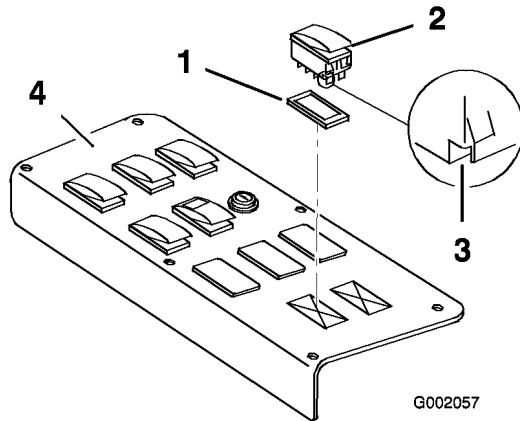
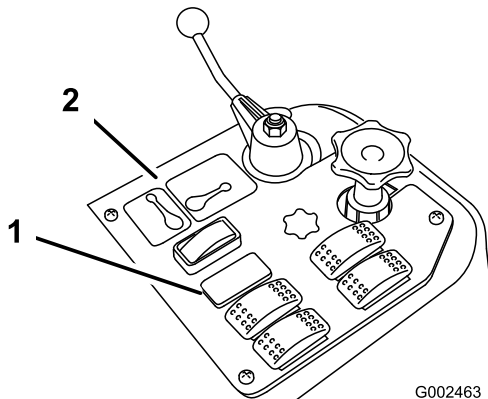

Figure 13
Figure 14
1. Remove the spray control panel to expose the bottom side (Figure 13 for the 1250 and Figure 14 for the 1200).
2. Remove the plug in the sonic boom slot from the spray control panel on the vehicle and install the rocker switch provided in its place (Figure 13 for the 1250 and Figure 14 for the 1200).
Note: Ensure that the orientation of the switch matches what is shown in Figure 13, with the notch pointing toward the rear of the vehicle.